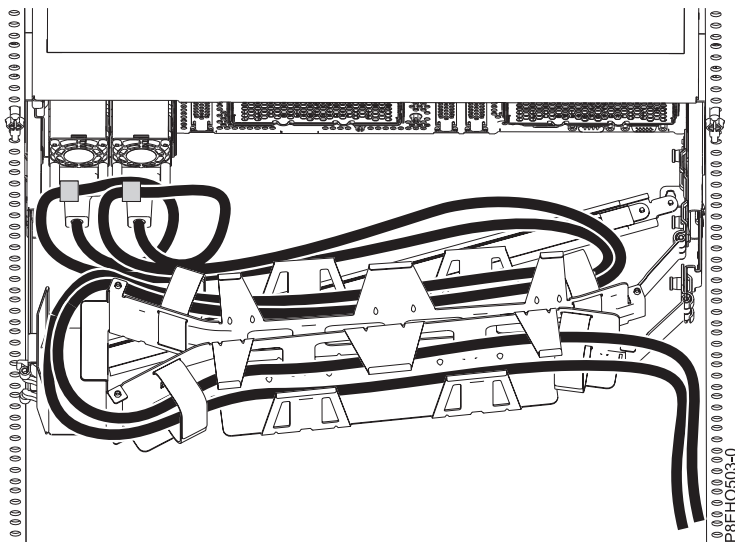
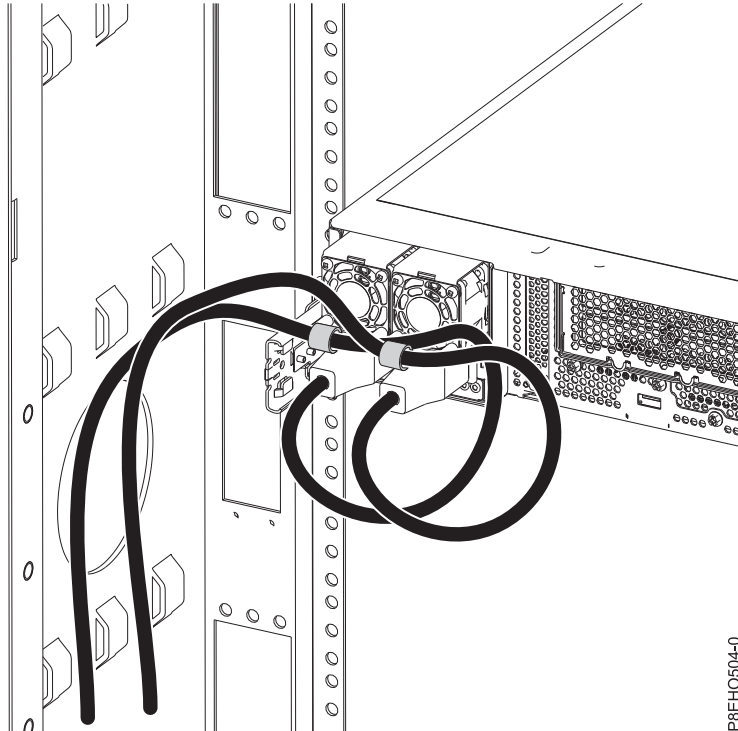

Figure 47. Power cord loop with cable management arm routing. The power cord loops counterclockwise to the right.
Figure 48. Power cord loop with sidewall routing. The power cord loops counterclockwise to the left.
3. Label and disconnect the power cords from the power supply handle. Unfasten the hook-and-loop fastener that ties the power cord to the power supply handle. Note how the power is looped; you will need to make that same loop when you reattach the power cords. You use two types of loops, detailed in Figure 47 and Figure 48 on page 68.